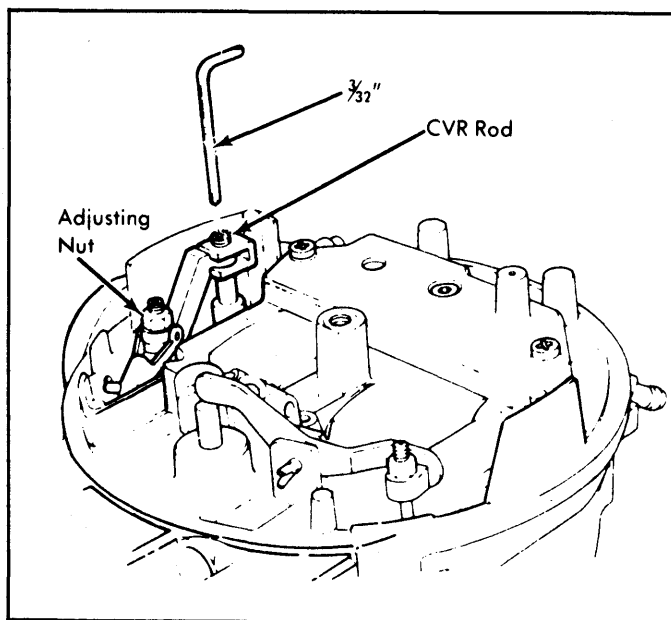

Fig. 7: Control Vacuum Regulator Adjustment
- 3) If any spring-back is evident, rod is not fully seated. Turn adjusting screw clockwise in 1/4 turn increments until spring-back is cancelled. Reset choke cap. See Fig. 7.